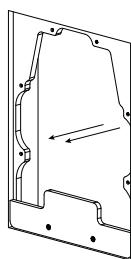

Fig. 5d
- Using the block as your guide, pull frame toward you so that it aligns on all sides with inside edges of the cutout. The block will protrude through the opening at bottom (Fig. 5d).